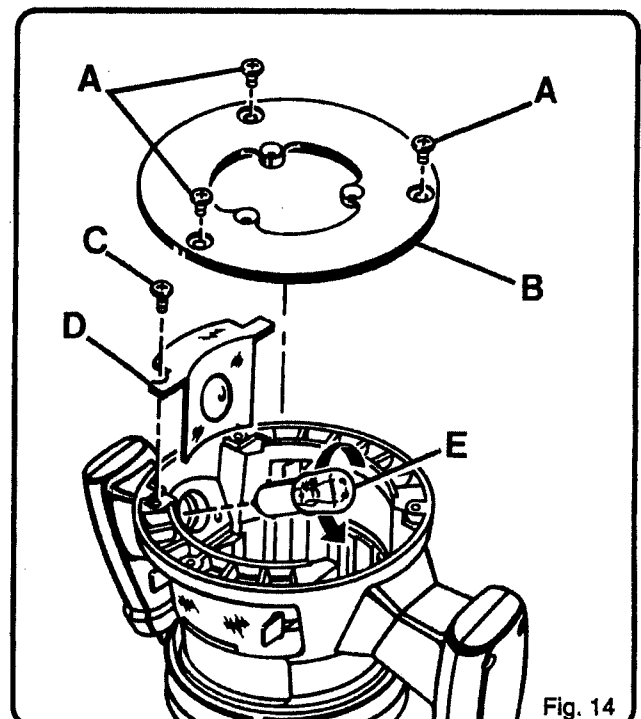

Fig. 14
See Figure 14.
4. Remove screws (A) and subbase (B). See Figure 14.
5. Remove screw (C) and work light lens (D).
6. With bulb (E) pointing toward you, push bulb in and turn to the left to remove from bulb socket. **NOTE:** Light bulb removal and installation is similar to removing and installing a standard automotive bulb.